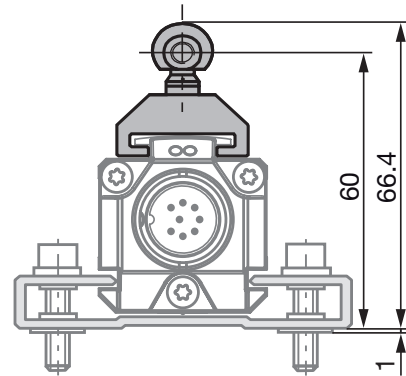
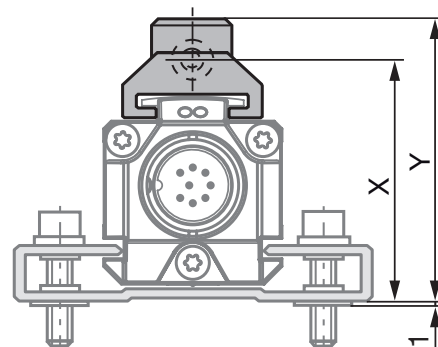
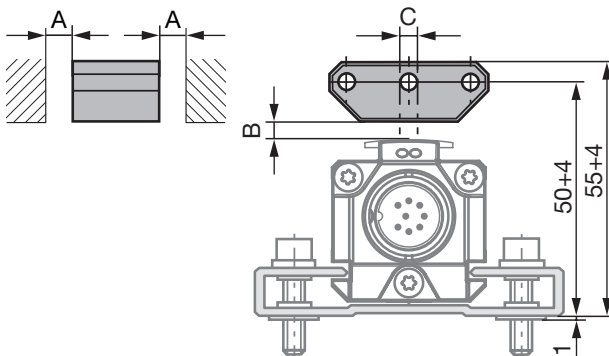
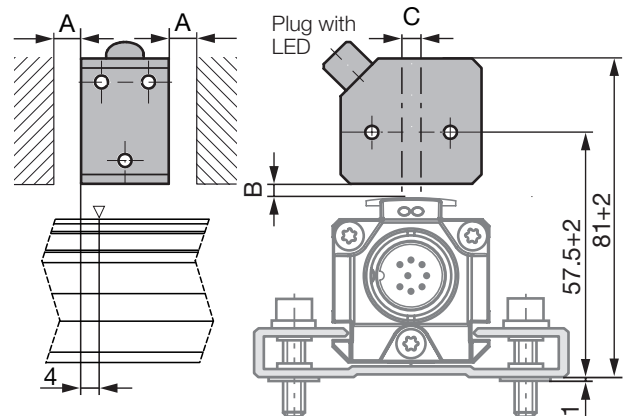

Fig. 4-1: Dimensions and distances with BTL5-F-2814-1S magnet
Fig. 4-3: Dimensions and distances with BTL5-M/N-2814-1S magnet
Fig. 4-4: Dimensions and distances with BTL5-P-3800-2 magnet
Fig. 4-8: Dimensions and distances with BTL5-P-4500-1 electromagnet (24 V/100 mA)
**i** The BTL in profile housing is suitable both for floating, i.e. non-contacting magnets (see Fig. 4-4 to Fig. 4-8) and for captive magnets (see Fig. 4-1 to Fig. 4-3).
- Ensure that the distance A between parts made of magnetizable material and the magnet is at least 10 mm (see Fig. 4-4 to Fig. 4-8).
- Maintain the following values for distance B between the magnet and BTL and for center offset C (see Fig. 4-4 to Fig. 4-8):
**i** The measuring range is offset by 4 mm towards the BTL plug (see Fig. 4-8).